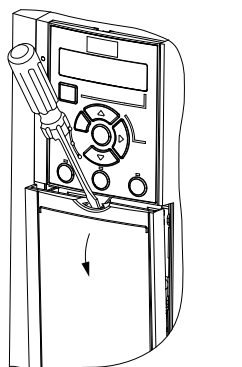

Figure 4.4 Control Wiring Access
- Remove the cover plate with a screwdriver. See Figure 4.4.